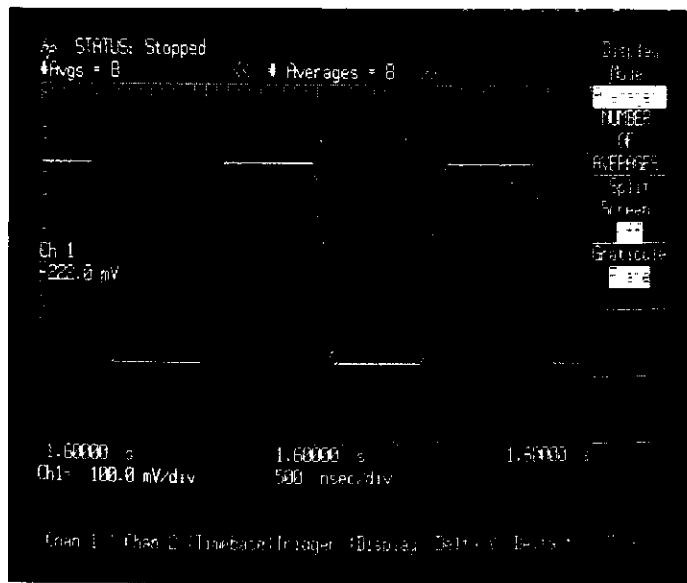

Figure 7-10. Time Jitter in the Averaged Mode
*After the unit has been allowed to acquire data for a short period, the rising and falling edges of the pulse appear to slope (see figure 7-10); this is a function of the time jitter on the signal and the fact that the unit is in the averaged mode. In this example where time jitter is present and a relatively long delay is used, the averaged mode does not faithfully reproduce the input signal*